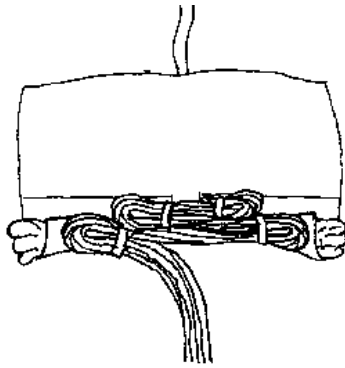

Figure 2-7
**Step 12** Make locking stows using the suspension lines to close the mouth of the bag. There are four locking stows (*Figure 2-7*).